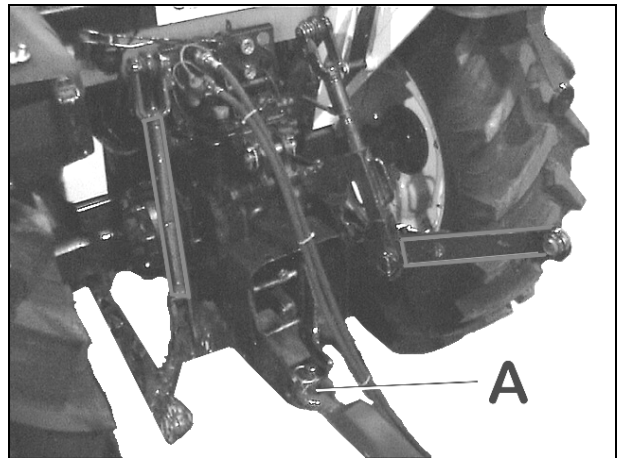

fig.8 – Connection to tractor
- Once the drawbar tow ring has been connected to the tow hook (A Fig.8), release the support foot and return it to its resting position.